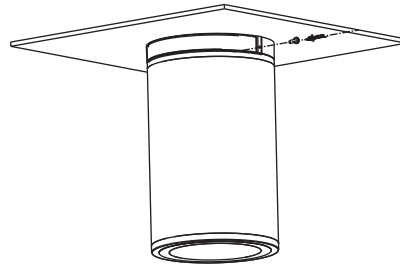

Figure 7
- Tighten the securing screw to finalize the installation. (Figure 7)